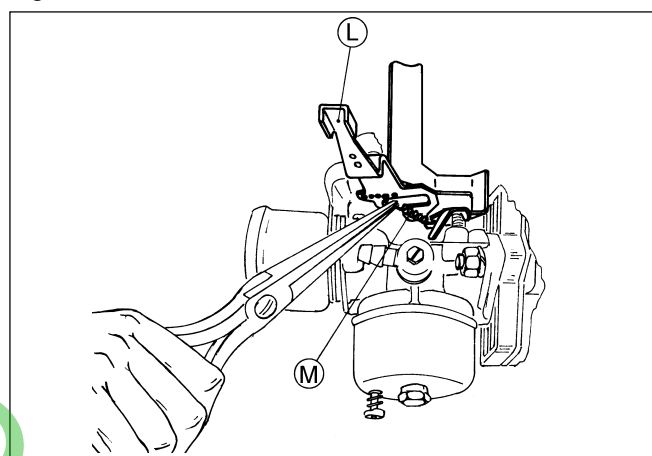

Fig. 2
a) MODÈLE AVEC COMMANDE VARIABLE (Fig. 2)